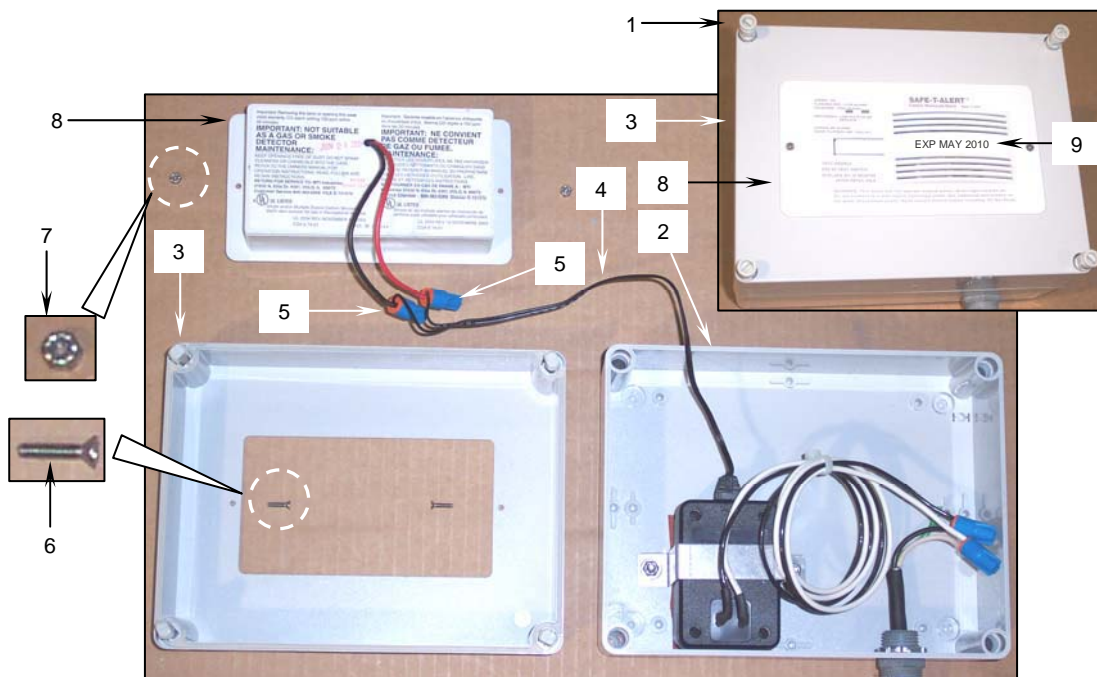

Figure 1. Replacing the CO Monitor CO Detector.
- a. Loosen the four captive screws (**Figure 1, Item 1**) at the front corners of the CO monitor enclosure (**Figure 1, Item 2**) and separate the front cover (**Figure 1, Item 3**) from the enclosure.
- b. Tag the two power supply DC wires (**Figure 1, Item 4**) as positive and negative.
- c. Remove and discard the two wire nuts (**Figure 1, Item 5**) and separate the wires.
- d. Remove the two machine screws (**Figure 1, Item 6**) and two self-locking hex nuts (**Figure 1, Item 7**) that secure the CO detector (**Figure 1, Item 8**) to the front cover (**Figure 1, Item 3**) of the enclosure.
- Mark the expiration date (**Figure 1, Item 9**) on the new CO detector prior to installation.
- Insert the new CO detector (**Figure 1, Item 8**) into the front cover (**Figure 1, Item 3**) and secure using the two machine screws (**Figure 1, Item 6**) and two self-locking hex nuts (**Figure 1, Item 7**).
- Twist the positive and negative wires of the new CO detector to the tagged power supply DC wires (**Figure 1, Item 4**) and secure using two new watertight wire nuts (**Figure 1, Item 5**).
- Place the enclosure cover (**Figure 1, Item 3**) with the new CO detector (**Figure 1, Item 8**) onto the enclosure (**Figure 1, Item 2**) and secure with the four captive screws (**Figure 1, Item 1**).